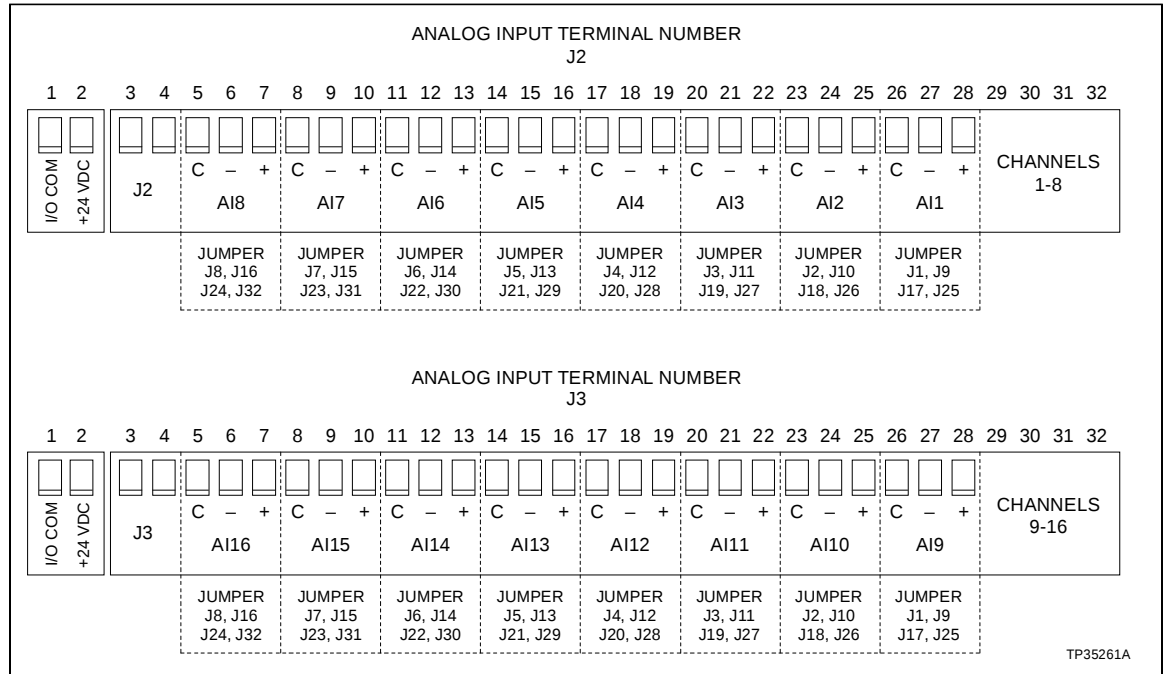
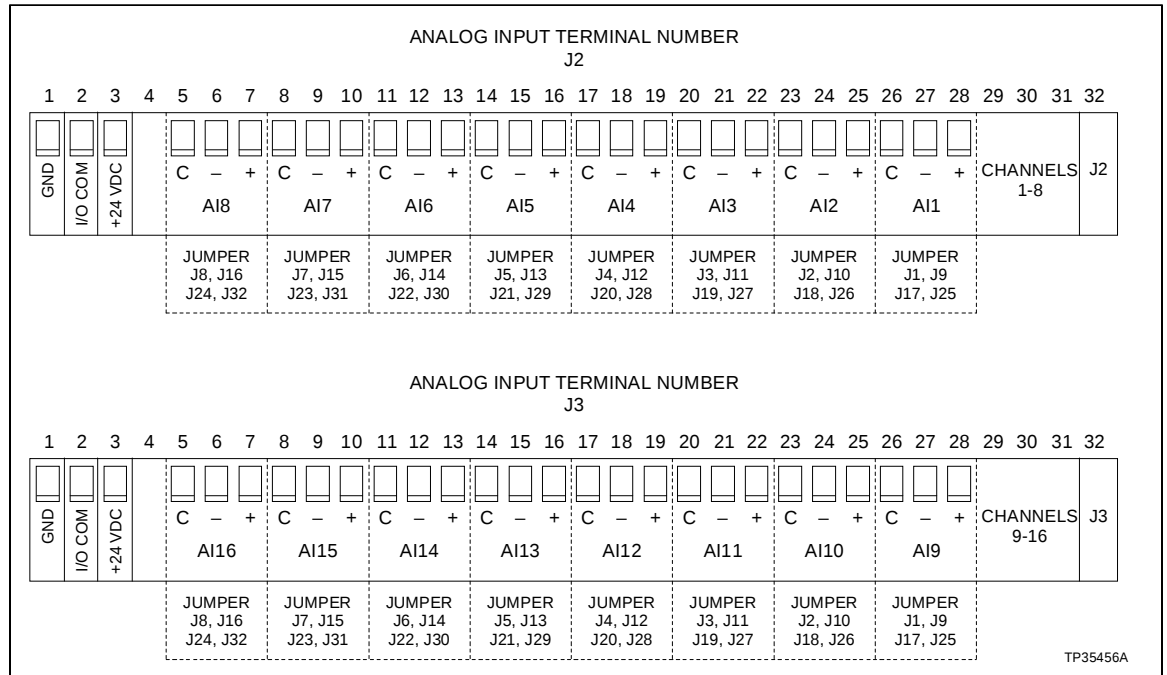

Figure A-3. Terminal Assignments for Revision A Hardware NIAI05
Figure A-4. Terminal Assignments for Revision B Hardware NIAI05
NOTE: Jumpers used by each input channel are listed with the terminal assignments in Figures A-3 and A-4.
- Figure A-3 shows the revision A hardware terminal assignments and the jumpers used for each input. Figure A-4 shows the revision B hardware terminal assignments and the jumpers used for each input.